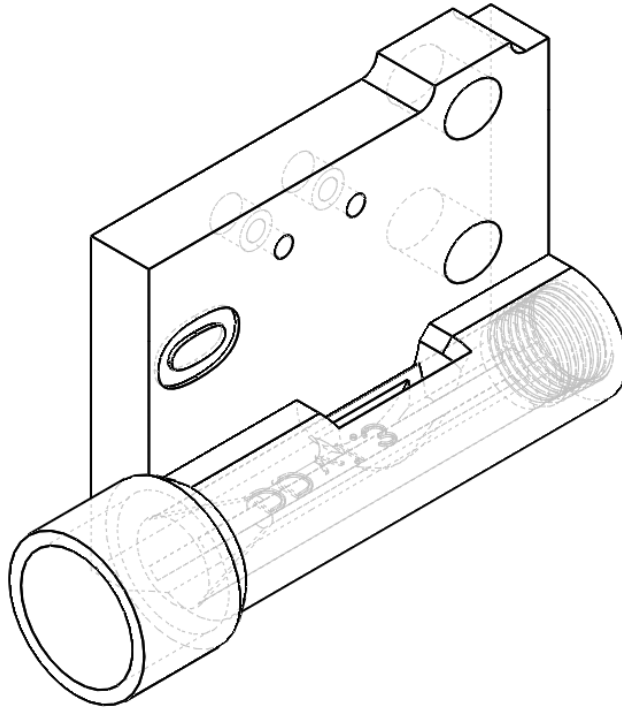

Figure 2: 3D printed FDU
2. Print the filament detection unit (FDU) on a 3D printer with at least 10% infill and 1.5 mm wall thickness. Place the unit on the printer bed as shown in Figure 2. Print with no supports.